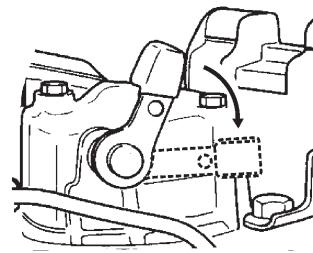

Figure 10. Decompression Lever
5. Push down decompression lever (Figure 10) and release.